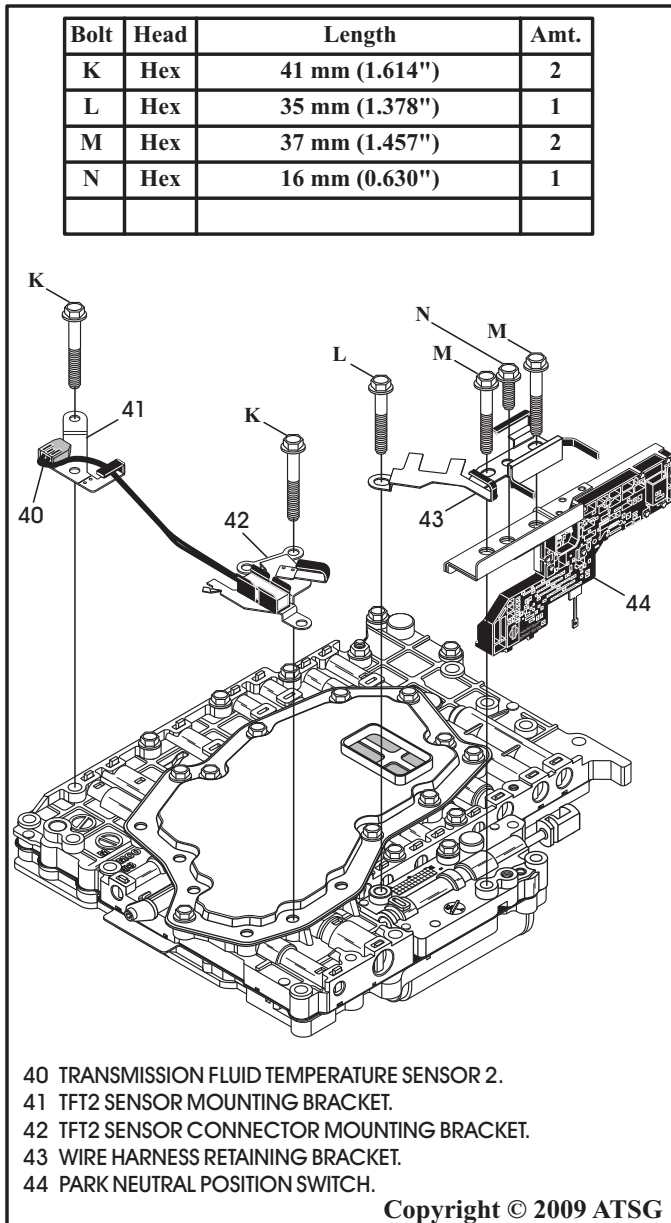

Figure 166
10. Turn valve body assembly over so that filter is facing up, as shown in Figure 166.
11. Remove the two hex head bolts identified with the letter K, as shown in Figure 166, and then remove the TFT2 sensor and two brackets.
12. Remove the hex head bolts identified with the letter L, M, and N, as shown in Figure 166, and remove the wire harness retaining bracket and the park/neutral position switch.